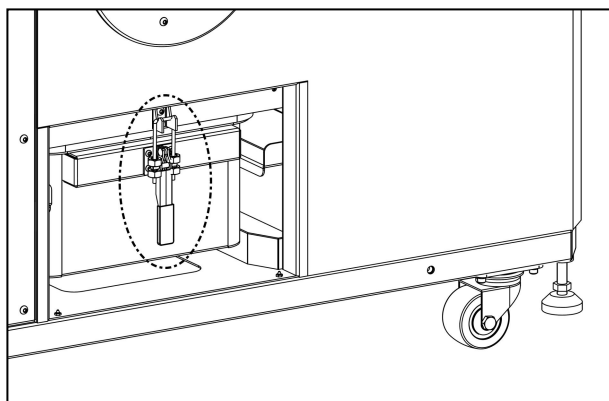

Fig.14
As shown in Fig. 14 release the handle and pull out the dust box, and pull out the dust box to empty the dust..
6.2 Clean Dust Box (Fig. 14)